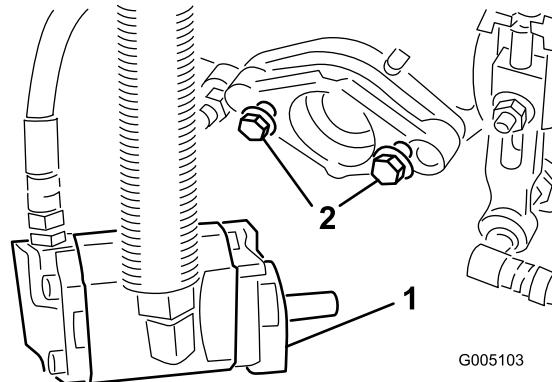

**Figure 13**
6. Align the sockets in the ball joints so the open side of the socket is centered towards the ball stud. Tighten the jam nuts to secure the sockets in position (Figure 13).